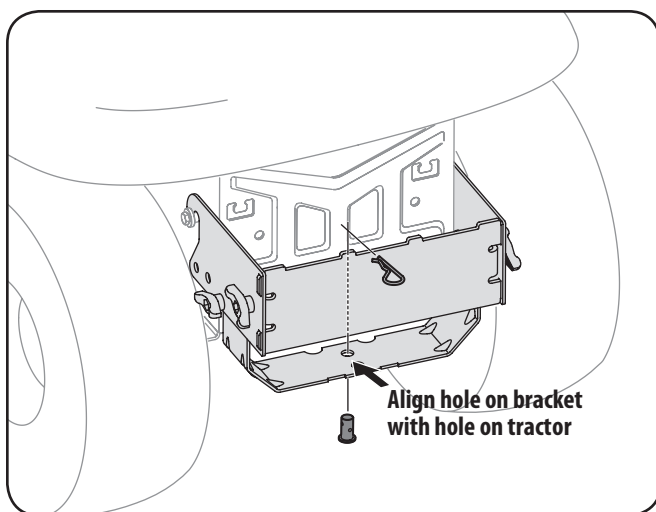

Figure 4-5
2. Install the clevis pin (711-0309A) from hardware pack 689-00328A into the tractor's hitch and secure with a hairpin clip (714-0117). See Figure 4-5.